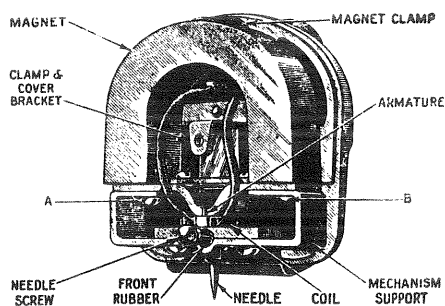

Figure 10—Pickup Nomenclature
(d) Remove screws A and B, Figure 10, and then remove the mechanism assembly from the pole pieces.
- (h) After remagnetizing, it is necessary to correctly center the armature. This may be done quite accurately by feeling its play after the needle is inserted. A little practice will quickly show which way an adjustment is necessary to have the armature centered properly. The adjustment is made by loosening screws A and B (Figure 10), and sliding the mechanism slightly in relation to the pole pieces.
(8) REPLACING THE DAMPING BLOCK